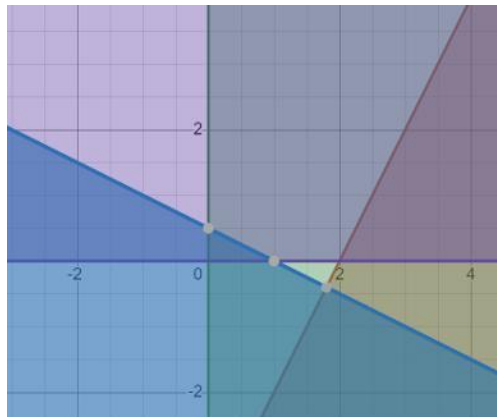

Figure 4: No feasible solutions: Problem 5b.
- b. This is an example of a system that is infeasible. The constraints do not create a region where all four solutions overlap. The system is illustrated in Figure 4.